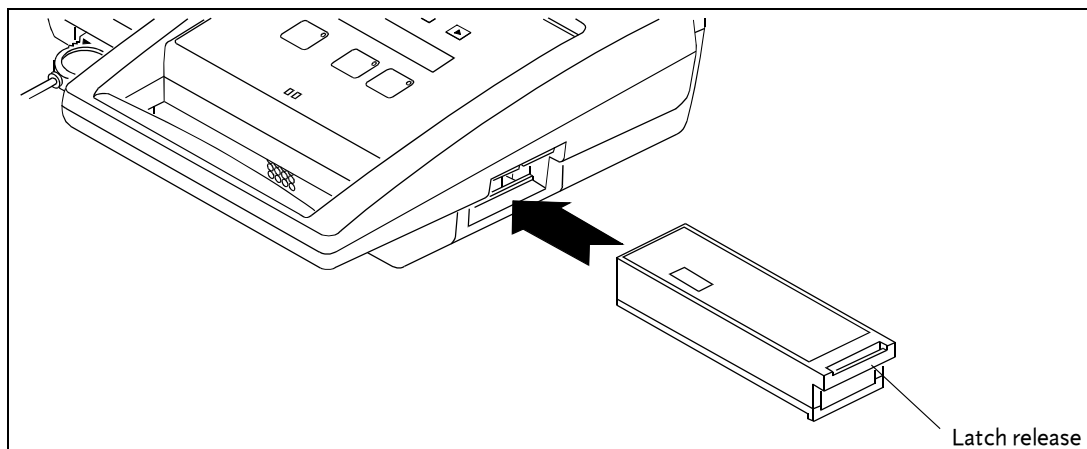

Figure 2-3 Battery installation
- 1 Insert the connector end of the battery into the battery compartment as shown in Figure 2-3.